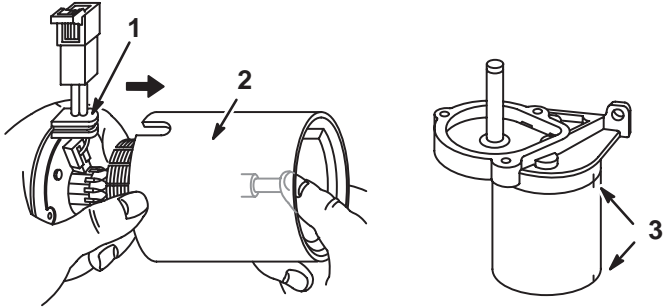

Fig. 101 – Inserting Armature
6. Support armature shaft and slide it slowly into starter housing, as shown in Fig. 101.
10. Notches in end cap, housing and end head must be aligned, Fig. 101.